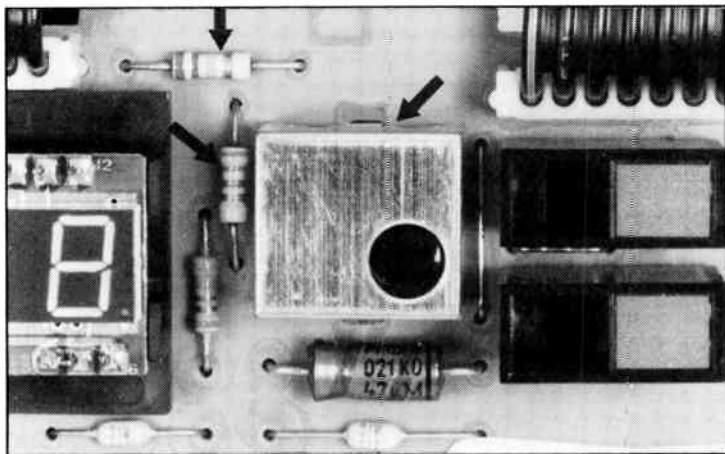

Fig. 17. Where to fit the IR receiver and extra resistors (arrowed).
The display board has space (to the right of the display) for an infra-red (IR) remote control receiver: an option that is strongly recommended. Sony's Type BX1407 is particularly suitable; Sharp's GP1U5 can also be used, but this has slightly different connections. Finally, two resistors, 22 k Ω and 3.3 Ω respectively, must be added as shown in Fig. 17. This arrangement will allow remote control of the player by any Philips IR trans-